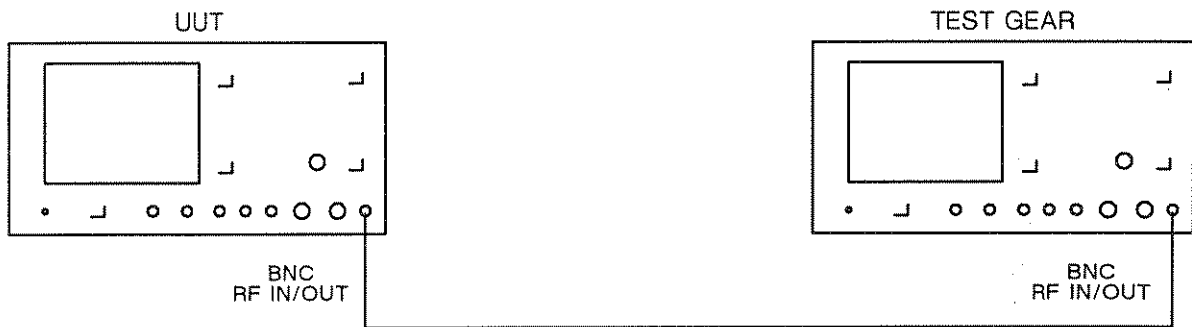

Fig. 5-18 Test equipment connections for Selcall tones performance checks
- (1) Connect the equipment as shown in Fig. 5-18.
- (2) Set the UUT to RX, carrier frequency 100 MHz, level 0 dBm, modulation off, BNC output socket.
- (3) On the UUT press TONES and select sequential then CCIR.